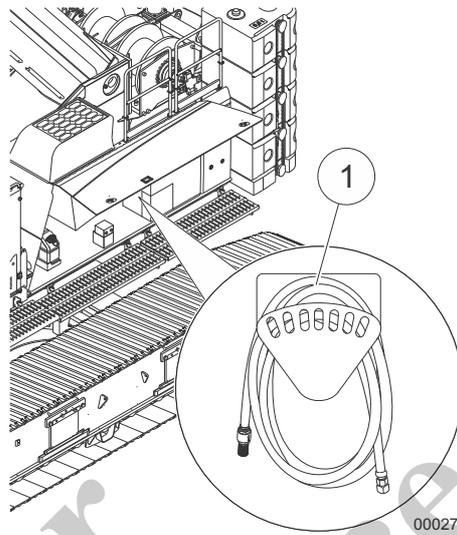

Fig. 99 Position of the fueling hose on the uppercarriage
10	Remove the fueling hose (1) in Fig. 99 and stow it securely.